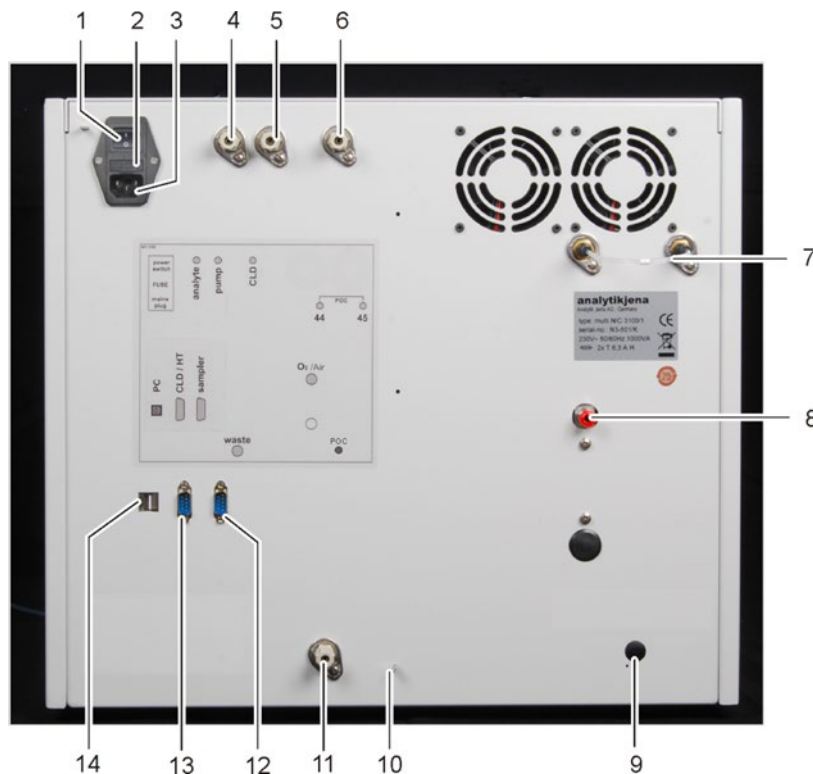

Fig. 60 Mains connection and gas connections at the multi N/C 3100
1. Connect the low-heat connection cable to the mains connection at the rear of the analyzer (3 in Fig. 60 p. 133).
1. Connect the connection hose supplied to the pressure reducer of the gas supply and the gas connection "O₂/Air" on the equipment backplate (8 in Fig. 60 p. 133).